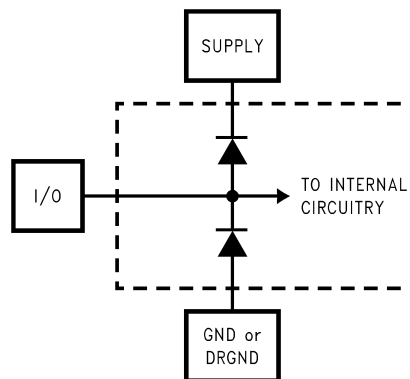

Figure 1.
- (1) The inputs are protected as shown below. Input voltage magnitudes above  $V_A$  or below GND will not damage this device, provided current is limited per (1). However, errors in the A/D conversion can occur if the input goes above  $V_A$  or below GND by more than 100 mV. As an example, if  $V_A$  is 4.75V, the full-scale input voltage must be ≤4.85V to ensure accurate conversions. See Figure 1
- (2) To ensure accuracy, it is required that  $|V_A - V_D| \leq 100\text{ mV}$  and separate bypass capacitors are used at each power supply pin.
- (3) With the test condition for  $V_{REF} = +2.0V$  (4VP-P differential input), the 12-bit LSB is 977 μV.
- (4) Typical figures are at  $T_A = T_J = 25^\circ\text{C}$ , and represent most likely parametric norms. Test limits are specified to TI's AOQL (Average Outgoing Quality Level).
- (5) Integral Non Linearity is defined as the deviation of the analog value, expressed in LSBs, from the straight line that passes through positive and negative full-scale.
- (6) Optimum performance will be obtained by keeping the reference input in the 1.8V to 2.2V range. The LM4051CIM3-ADJ (SOT-23 package) is recommended for this application.
- (1) The inputs are protected as shown below. Input voltage magnitudes above  $V_A$  or below GND will not damage this device, provided current is limited per (1). However, errors in the A/D conversion can occur if the input goes above  $V_A$  or below GND by more than 100 mV. As an example, if  $V_A$  is 4.75V, the full-scale input voltage must be  $\leq 4.85V$  to ensure accurate conversions. See Figure 1
- (2) To ensure accuracy, it is required that  $|V_A - V_D| \leq 100$  mV and separate bypass capacitors are used at each power supply pin.
- (3) With the test condition for  $V_{REF} = +2.0V$  (4VP-P differential input), the 12-bit LSB is 977  $\mu V$ .
- (4) Typical figures are at  $T_A = T_J = 25^\circ C$ , and represent most likely parametric norms. Test limits are specified to TI's AOQL (Average Outgoing Quality Level).
- (5) Typical figures are at  $T_A = T_J = 25^\circ C$ , and represent most likely parametric norms. Test limits are specified to TI's AOQL (Average Outgoing Quality Level).
- (6)  $I_{DR}$  is the current consumed by the switching of the output drivers and is primarily determined by load capacitance on the output pins, the supply voltage,  $V_{DR}$ , and the rate at which the outputs are switching (which is signal dependent).  $I_{DR} = V_{DR}(C_0 \times f_0 + C_1 \times f_1 + \dots + C_{11} \times f_{11})$  where  $V_{DR}$  is the output driver power supply voltage,  $C_n$  is total capacitance on the output pin, and  $f_n$  is the average frequency at which that pin is toggling.
- (7) Excludes  $I_{DR}$ . See previous note.
- (1) The inputs are protected as shown below. Input voltage magnitudes above  $V_A$  or below GND will not damage this device, provided current is limited per 0. However, errors in the A/D conversion can occur if the input goes above  $V_A$  or below GND by more than 100 mV. As an example, if  $V_A$  is 4.75V, the full-scale input voltage must be  $\leq 4.85V$  to ensure accurate conversions. See Figure 1
- (3) With the test condition for  $V_{REF} = +2.0V$  (4VP-P differential input), the 12-bit LSB is 977  $\mu\text{V}$ .
- (4) Timing specifications are tested at TTL logic levels,  $V_{IL} = 0.4V$  for a falling edge and  $V_{IH} = 2.4V$  for a rising edge.
- (5) Typical figures are at  $T_A = T_J = 25^\circ\text{C}$ , and represent most likely parametric norms. Test limits are specified to TI's AOQL (Average Outgoing Quality Level).